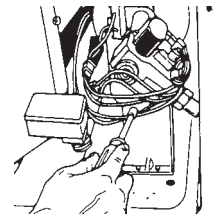

Fig. 4-29
4. Remove the two (2) screws securing the burner assembly to the mounting bracket. (Fig. 4-29)